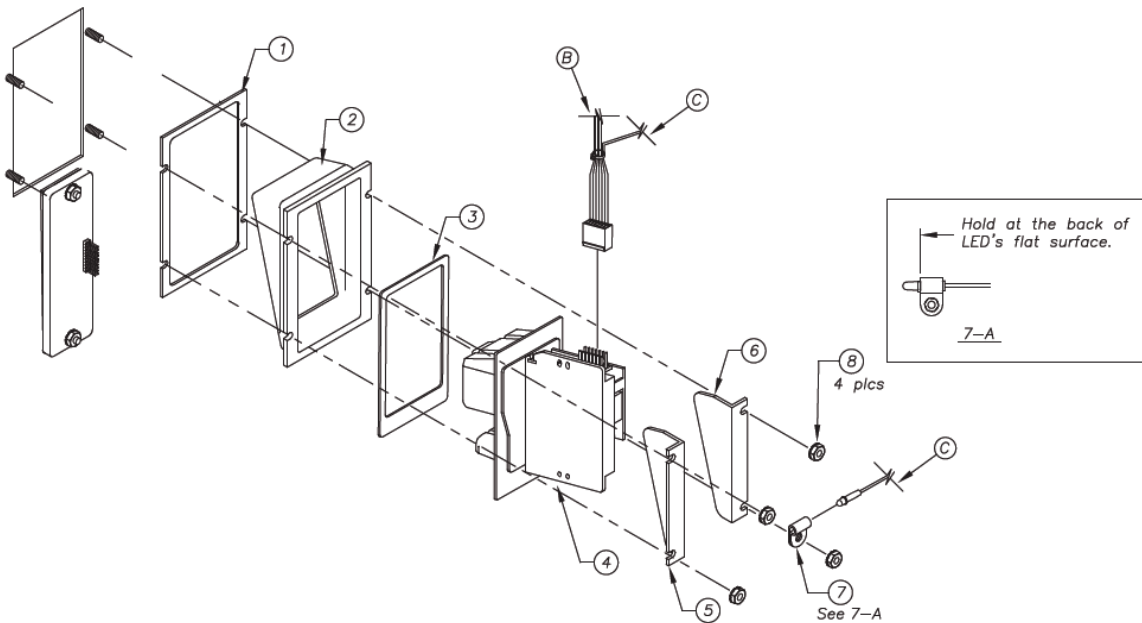

Figure 2-1 Secondary Card-Reader Assembly
Once the FIT500 pedestal door has been removed, the secondary card reader is to be installed in the pedestal door. Please see Figure 2-1 for visual reference during the installation process.
1. Begin by placing the following components onto the four (4) mounting studs on the pedestal door, in the order in which they are listed.
- a. Bezel gasket (item 1)
- b. Bezel (item 2)
- c. Card reader gasket (item 3)
- d. Card reader (item 4)
2. Secure the card reader with the supplied reader holding brackets (items 5 and 6) using 6-32 KEP nuts. Use two (2) 6-32 KEP nuts to secure the first card-reader holding bracket (item 5) to the pedestal, as shown in Figure 2-1. Next, secure only the top of the opposite card-reader holding bracket (item 6) to the pedestal, using one (1) 6-32 KEP nut, as shown in Figure 2-1.
3. Secure the 20-1642-032 reader cable LED with the provided clamp (item 16). Use one (1) 6-32 KEP nut on the bottom stud of the card-reader holding bracket (item 6). Ensure that the LED above the stud is facing the reader.